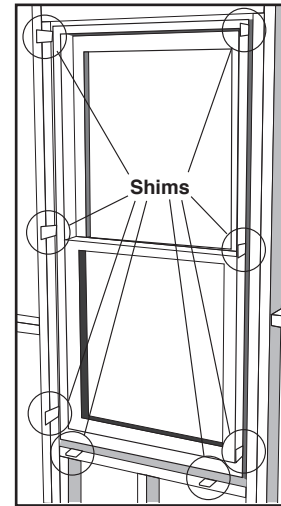

Figure 2
- (Required)** With the window closed and locked, place it in the rough opening and center it from side to side. If the sill of the rough opening is not level and true, place shims as needed to prevent the sill from bowing or sagging (**Figure 2**), otherwise place the window unit directly onto the sill. If your window is a horizontal sliding window, make sure each meeting rail is supported.
- (Required)** Square the window side to side (shimming if necessary—see **Figure 2**) to maintain square and plumb jambs. Make sure the window sill and head are level and not crowned. A properly installed window will measure the same within 1/16" across the top, middle and bottom, and within 1/8" across the diagonals (this may vary for integral and side-by-side mull units).